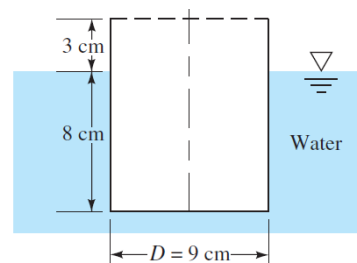

Fig. 2.7
- 2.7 The can in Fig. 2.7 floats in the position shown. What is its weight in N?